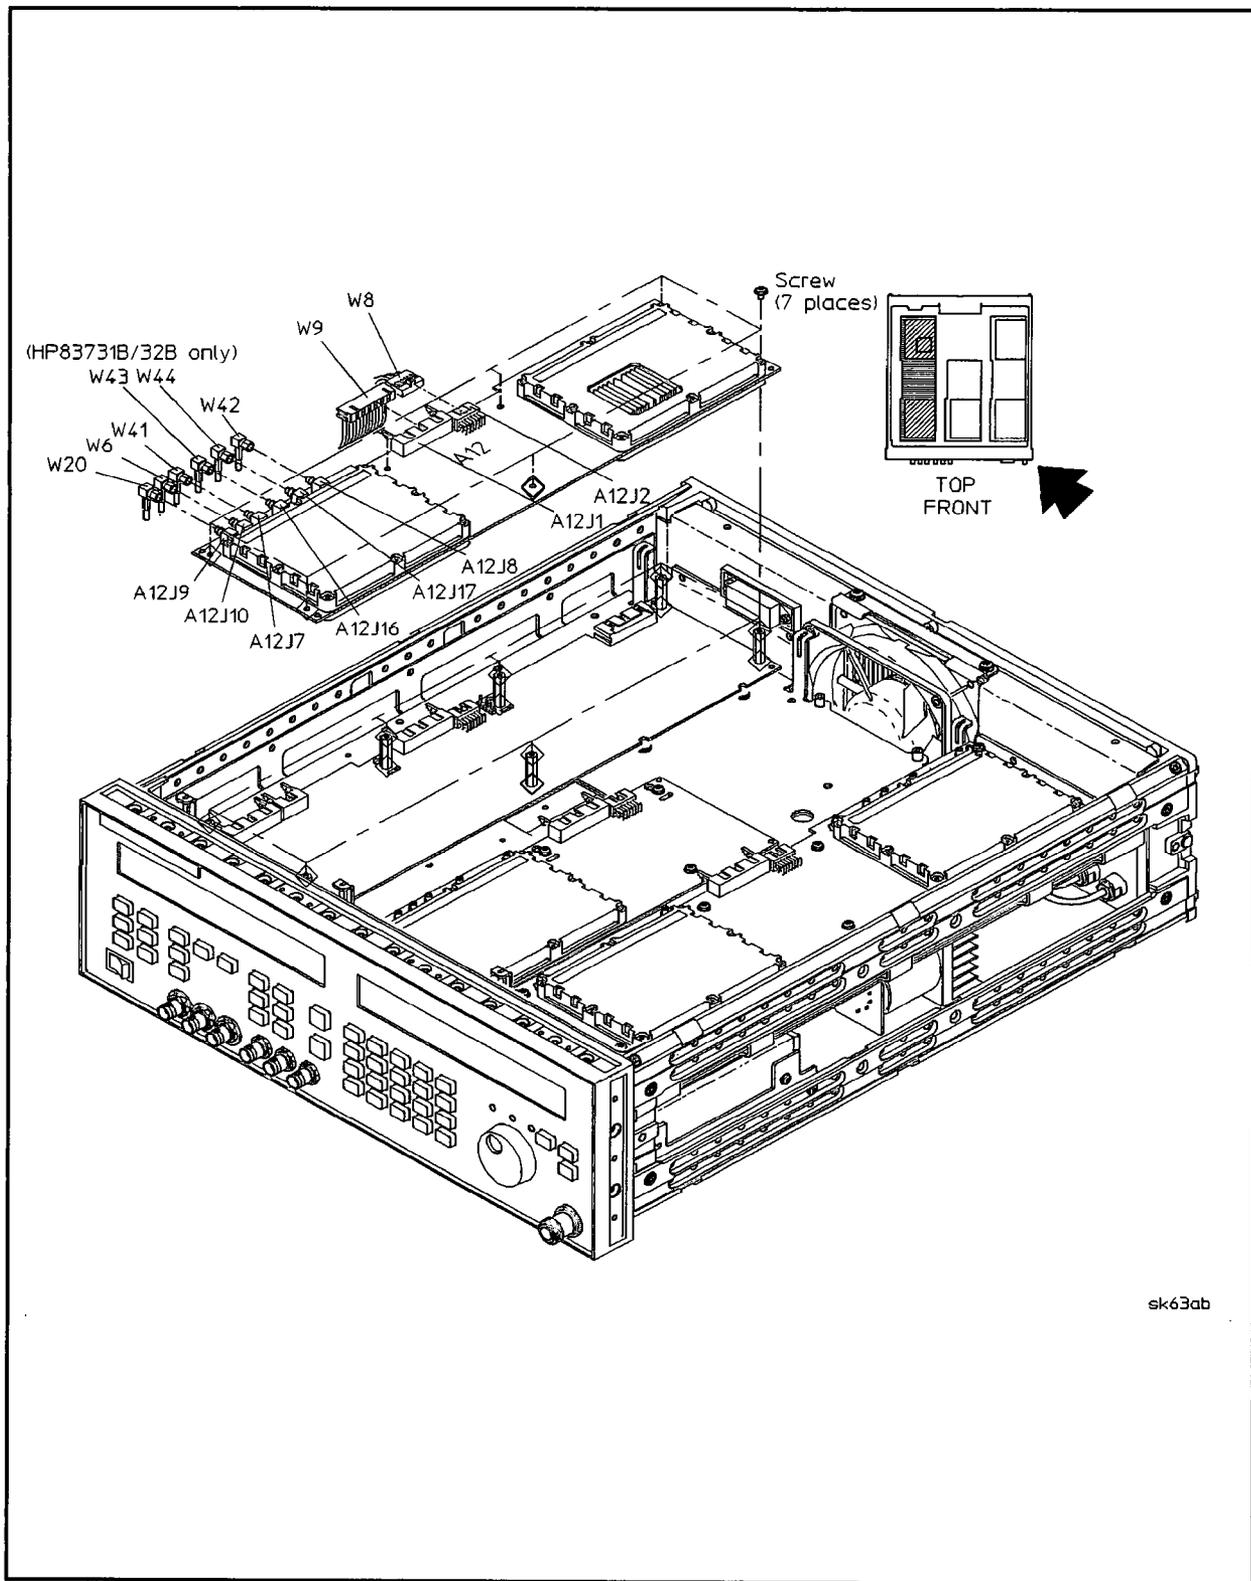

Figure 5-17. Modulation Source Board Assembly Removal
3. In the introduction to this chapter, refer to "Flexible Coaxial Cables" and Figure 5-17. Then, disconnect the following cables using a 15/64 in end wrench:
4. Refer to "Multi-wire Cables" and Figure 5-17. Then, disconnect the following cables:
5. Using a size 10 TORX® screwdriver, remove the seven screws connecting the assembly to the standoffs and frame. See Figure 5-17.
3. Using a size 10 TORX® screwdriver, remove the seven screws connecting the A12 assembly to the standoffs and the A3 assembly. See Figure 5-17.